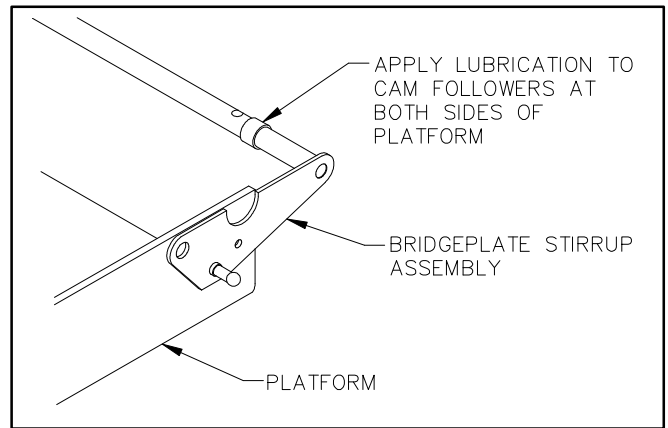

FIGURE 4-5: BRIDGEPLATE LUBRICATION DETAIL
3. Refer to **Figure 4-5**. Lubricate the bridgeplate stirrup assembly cam followers using light grease, such as Curtisol Red Grease #88167. Wipe clean any excess grease.